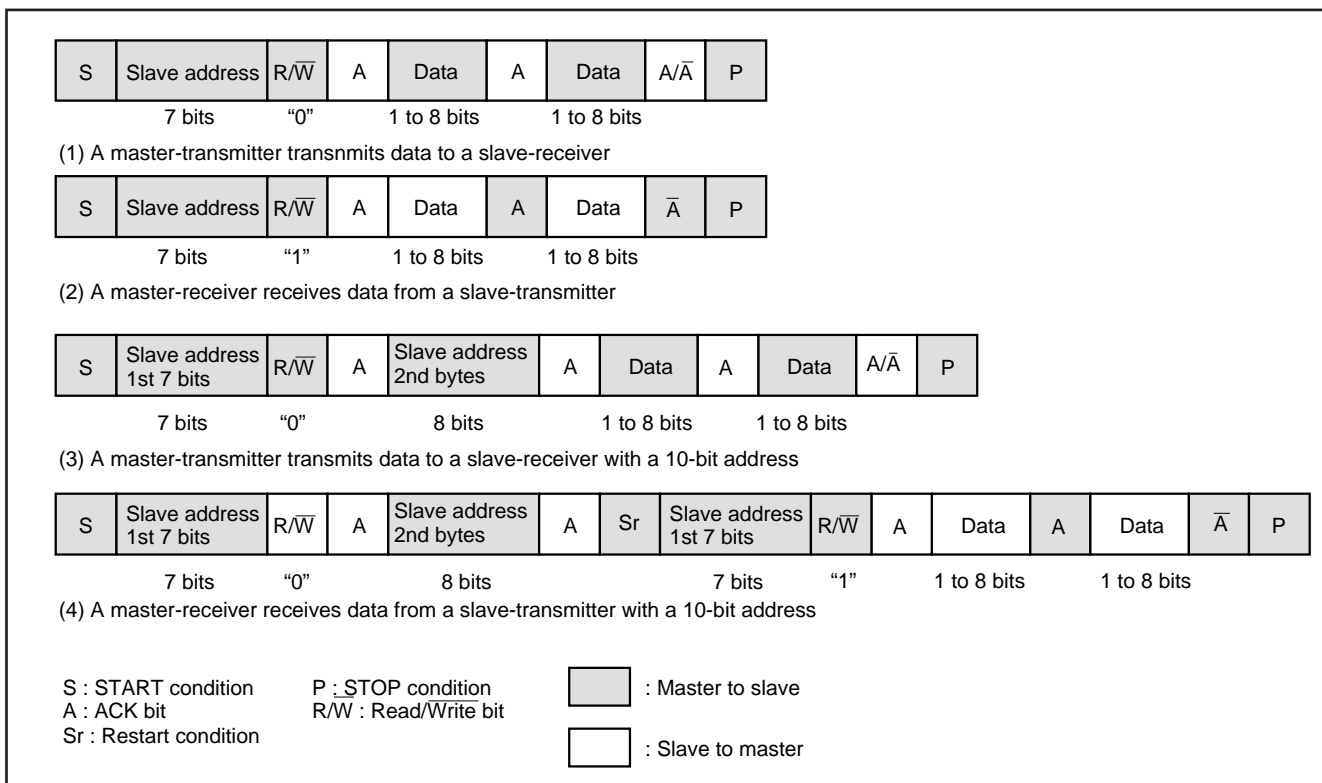

Fig. 31 Address data communication format
① 7-bit addressing format
To adapt the 7-bit addressing format, set the 10BIT SAD bit of the I²C control register (address 002E₁₆) to "0." The first 7-bit address data transmitted from the master is compared with the high-order 7-bit slave address stored in the I²C address register (address 002C₁₆). At the time of this comparison, address comparison of the RWB bit of the I²C address register (address 002C₁₆) is not performed. For the data transmission format when the 7-bit addressing format is selected, refer to Figure 31, (1) and (2).
② 10-bit addressing format
When the first-byte address data agree with the slave address, the AAS bit of the I²C status register (address 002D₁₆) is set to "1." After the second-byte address data is stored into the I²C data shift register (address 002B₁₆), perform an address comparison between the second-byte data and the slave address by software. When the address data of the 2 bytes agree with the slave address, set the RBW bit of the I²C address register (address 002C₁₆) to "1" by software. This processing can make the 7-bit slave address and R/W data agree, which are received after a RESTART condition is detected, with the value of the I²C address register (address 002C₁₆). For the data transmission format when the 10-bit addressing format is selected, refer to Figure 31, (3) and (4).